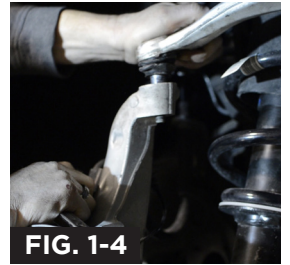

FIG. 1-4
9. Disconnect upper ball joint (Fig 1-4)